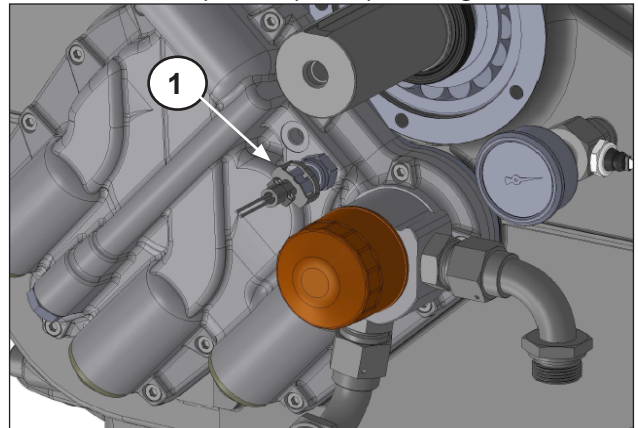

Fig. 15
Remove the oil temperature probe (pos. ①, Fig. 15).